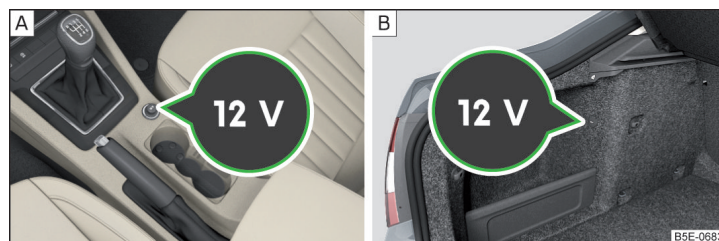

Fig. 117 12-volt socket cover: in the front centre console/in the luggage compartment
- › To use, remove the cover from the socket » Fig. 117 - **A** or open the cover of the socket » Fig. 117 - **B**.